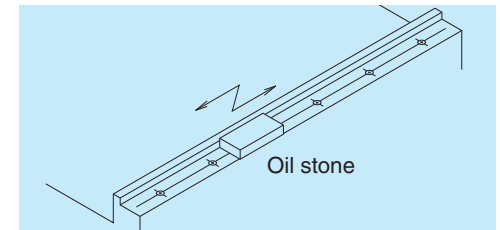

Fig. 10.12
(3) Installation procedures
• For both methods, wipe off the rust preventive oil applied to the linear guide. Remove burrs and small bumps on the machine base and table mounting surface with an oilstone (**Fig. 10.12**).